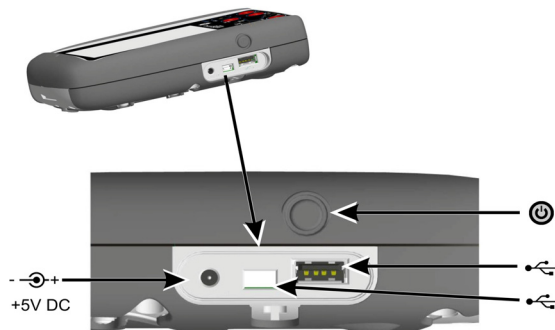

Fig 2 Side View
1. Connect the DC power supply/battery charger unit in to the +5VDC connection on the side of the unit (Ref: Fig 2 Side View).
2. The battery can also be charged using the USB connections (Ref: Fig 2 Side View).
From OFF – press the power button (Ref: Fig 2, Side View) until the dashboard is displayed.